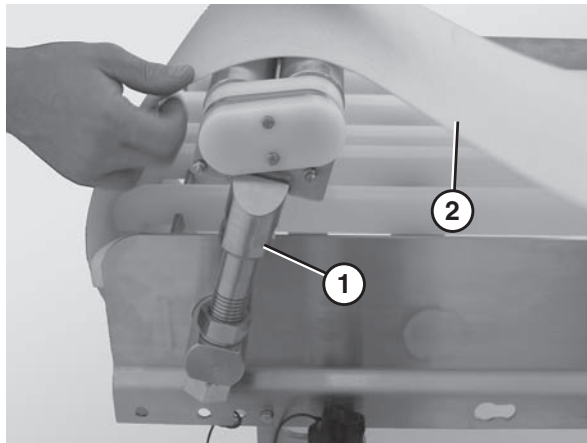

Figure 38
2. Place the tip up tail (**Figure 38, item 1**) in the up position.
3. Lift up on the belt (**Figure 38, item 2**).